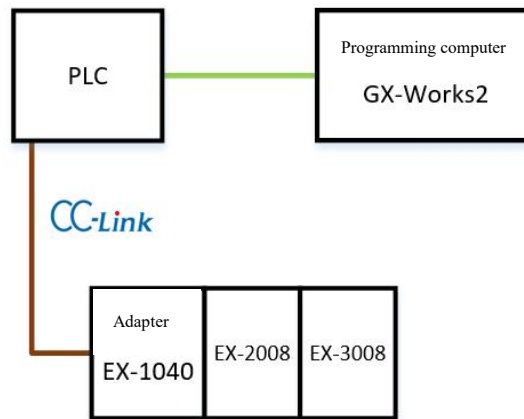

Figure 5-5-1 Communication connection diagram
1. Communication connection diagram, as shown in Figure 5-5-1.